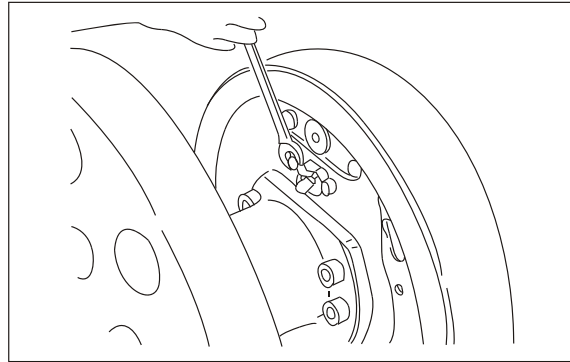

Fig.5-11
(5) Remove the brake pipe from the wheel cylinder. Remove the wheel cylinder mounting bolts and take the wheel cylinder off the backing plate.(See Fig.5-11)